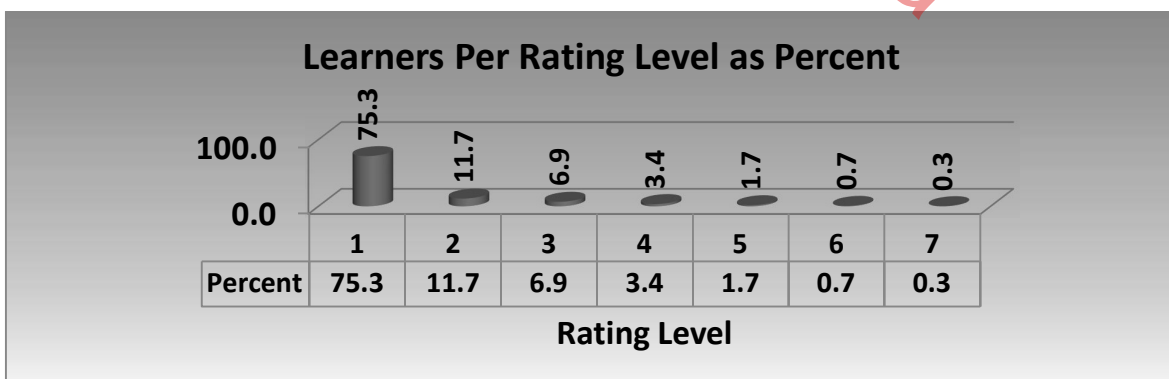

Figure 1- seven-point scale
The Technical Sciences Paper 2 average percentage of 24,7% was achieved on the seven (7) point scale for a total **number of 2948** learners, who were registered for 2022 grade 12. The graph (figure1) below represents the seven (7) point scale of level distribution for the performance at 24,7% in the 2022 matric results. Generally, the level distribution implies that the paper was poorly performed owing to a few different factors surrounding the years 2020 to 2022 which were severely affected by the Covid-19 pandemic.
The learner performance is reputable on the relative performance of the 100 trialed scripts, tabled and graphed below (see table 1, figure 1 and figure 2). An overall performance of 45%. Based on the presented data from sampled 100 scripts, questions 5 and 6 (**Electrolytic Cell 34% & Galvanic cell 34%**) remain the most poorly performed questions, followed by question 4 (**Organic Reactions - 41%**).